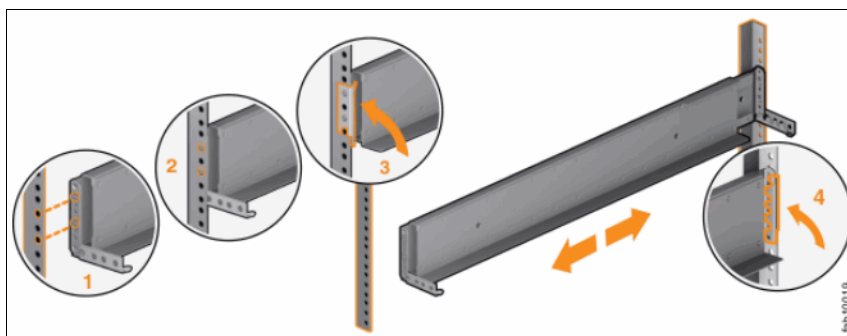

Figure 6-3 Closing the rail hinge brackets
- Close the rear hinge bracket **4** to secure the rail to the rack cabinet flange. See Figure 6-3.
- Close the front hinge bracket **3** to secure the rail to the rack cabinet flange. See Figure 6-3.